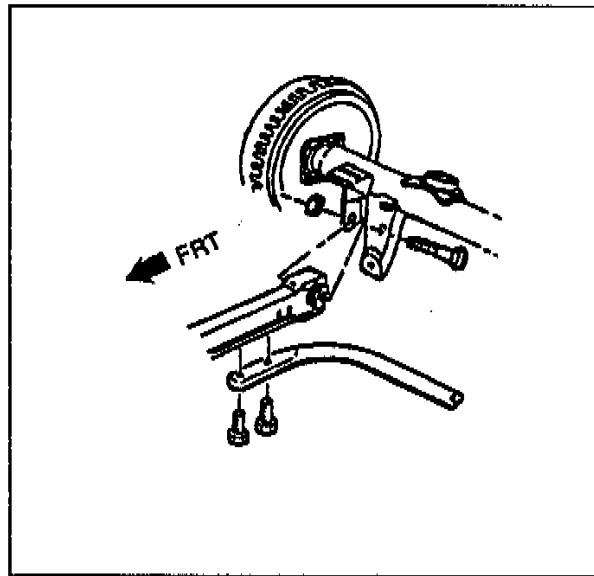

Figure 4
12. Swing lower control arm into position and install attaching bolt and nut as shown in Figure 4. With axle assembly positioned as far rearward as elongated holes will allow, torque attaching bolt to 190 Nm (140 lb.ft.) holding nut with a backup wrench.